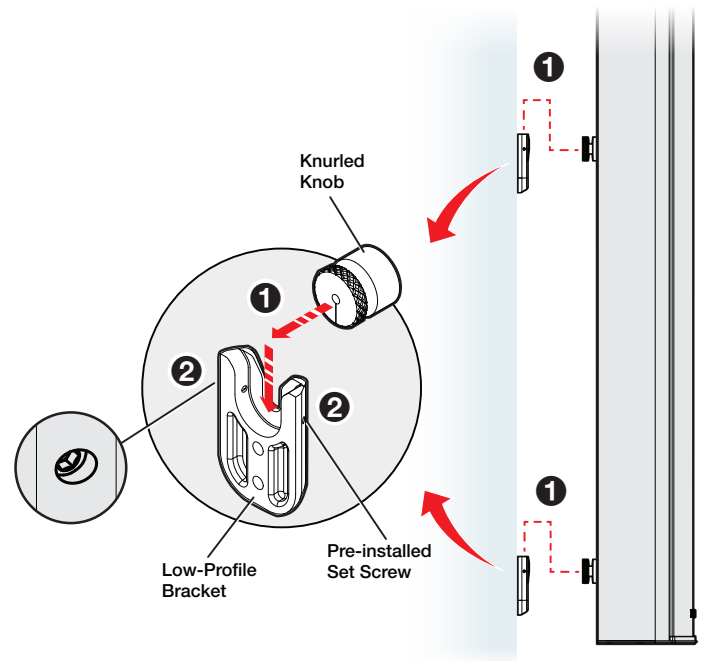

Figure 9. Securing the CA 163 Low Profile Mount
1. Slide the two Knurled Knobs into the two Low-Profile Brackets (see figure 9, **1**).